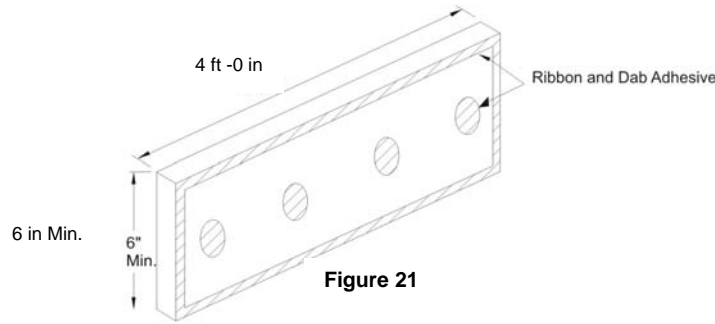

Figure 21
8. Tops of walls, sills of continuous windows and other horizontal system terminations are terminated using 152 mm or 305 mm x 1.2 m (6 in or 12 in x 48 in) closure blocks. These are adhered to Backstop NT using a ribbon and dab adhesive pattern as shown in the Figure 21.